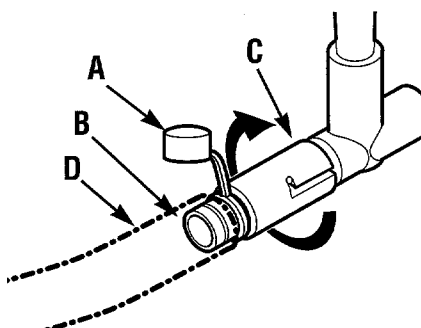

Figure 5-2: Oil drain.
3. Remove protective cap (A, Figure 5-2) to expose oil drain port (B).
4. Push oil drain hose (D) (included in hardware bag with unit) onto oil drain port. Route other end of hose to an appropriate oil collection receptacle.
5. Twist oil drain fixture (C) to the open position. Pull out. Drain oil completely.
6. Push in and twist oil drain fixture to the closed position. Remove drain hose. Replace protective cap (A).